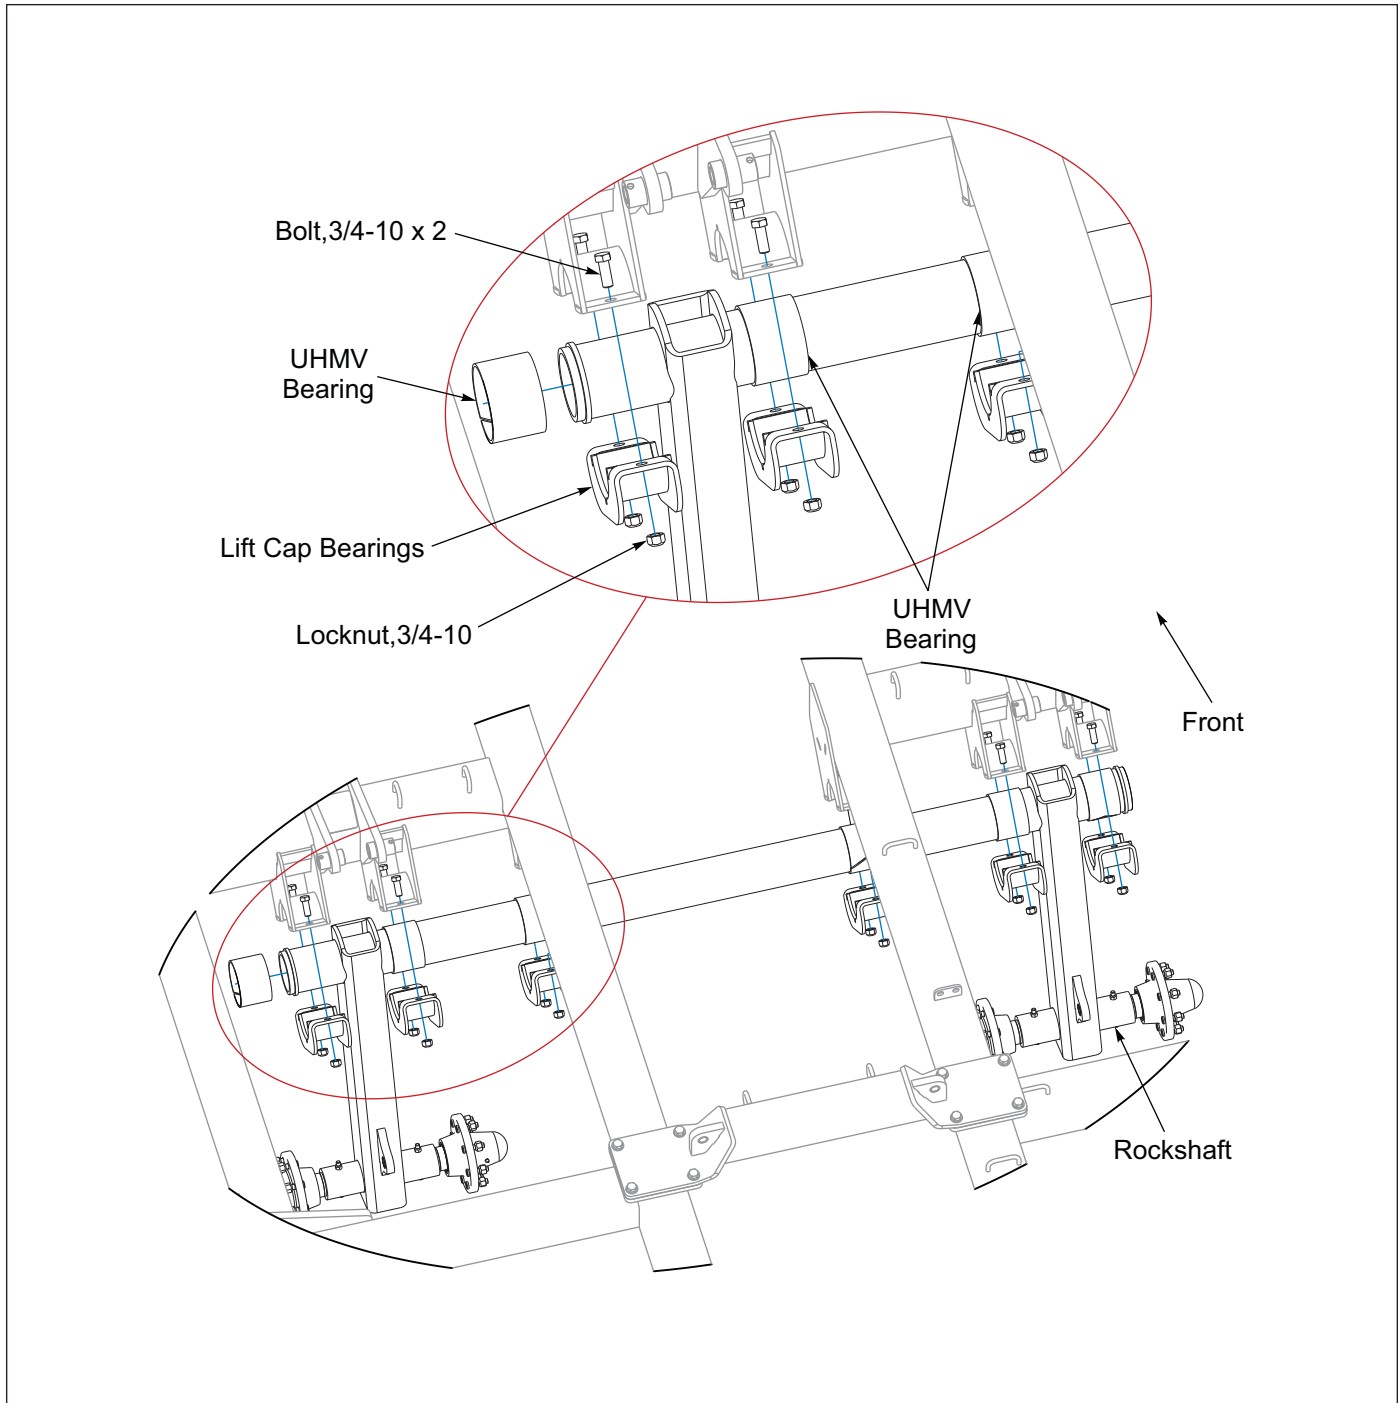

Figure 2-5: Rockshaft Installation
1. Spread open the six UHMV Bearings and place them onto the Rockshaft. Make sure the mounting surface is free of rust or dirt. **See Figure 2-5.**